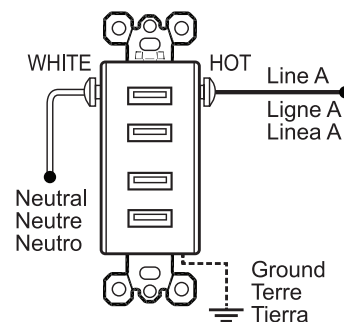

Figure 1/Illustration 1/Figura 1
- Install device per corresponding wiring diagram. See Figure 1.